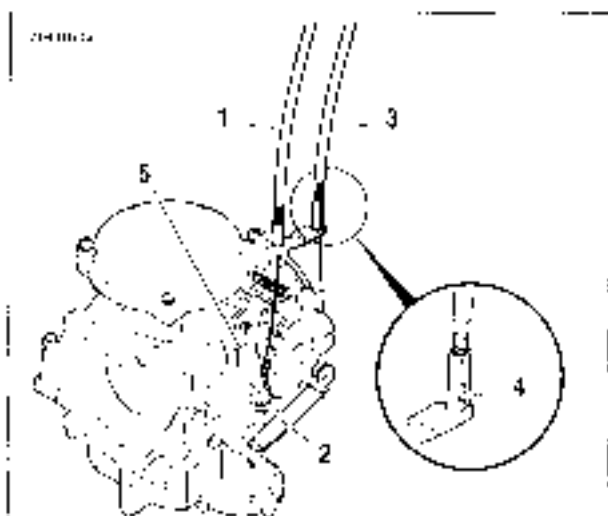

Figure 1-56. Idle Cable Connection
- b. Turn the throttle cable adjuster (2) lengthening the sleeve, until the throttle cam just touches the cam stop. See Figure 1-56.